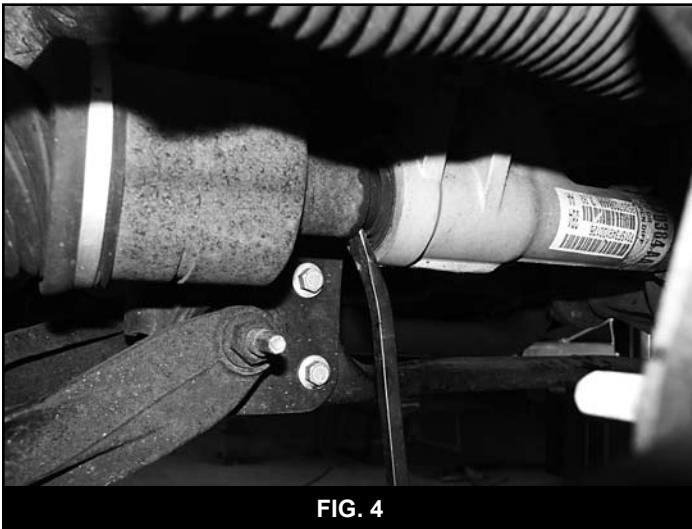

FIG. 4
18. Disconnect the CV axles from the differential by carefully prying CV out at the differential to disengage the internal retaining clip (Fig 4). Pry the shaft out just enough to release the clip and leave the axle on the differential at this time.